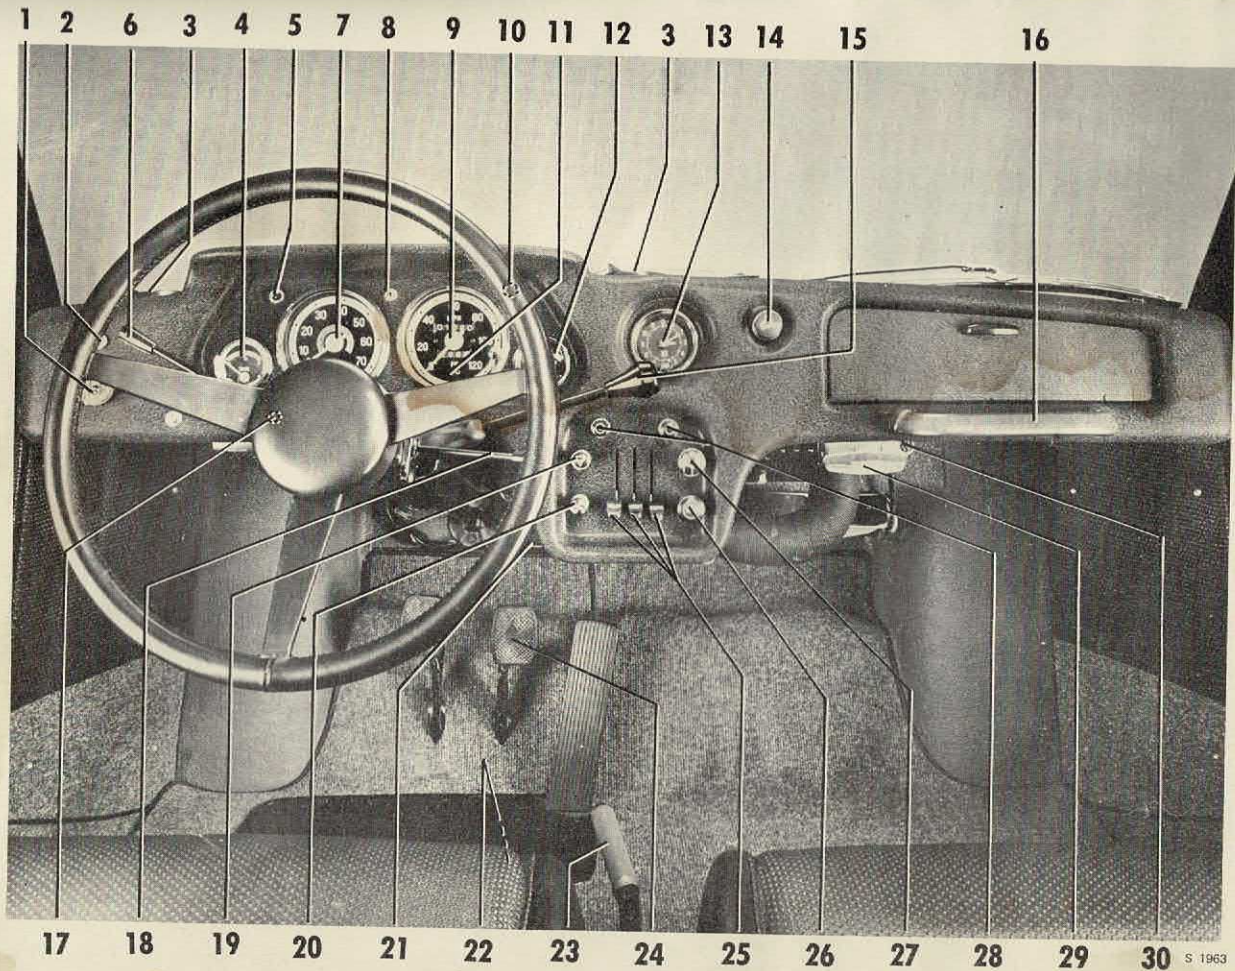

Figure 2. Instruments and controls
At speeds in excess of about 30 m.p.h. (50 km/h), a forced draft is generated which is normally sufficient to enable the air heater to function satisfactorily. Thus the fan need only be used when the car is stopped or moving at low speed. Adequate ventilation of the car's interior is provided by the vents at the rear with the window closed. Fresh air may also be admitted into the car via a separate inlet located to the right of the heater inlet at the floor. The flap is operated by a control above the map reading lamp. Knob pushed fully out = flap closed. See pos. 30, Figure 2.